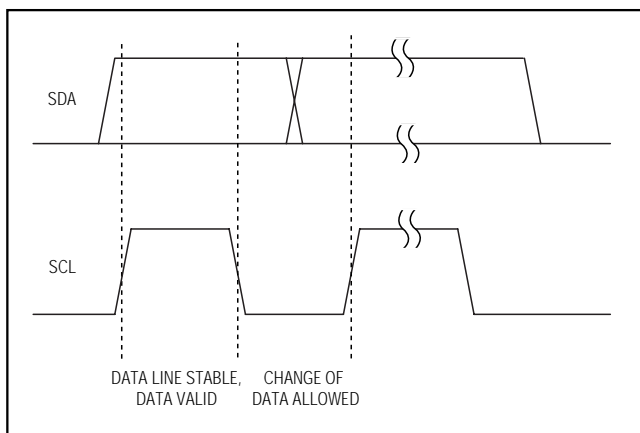
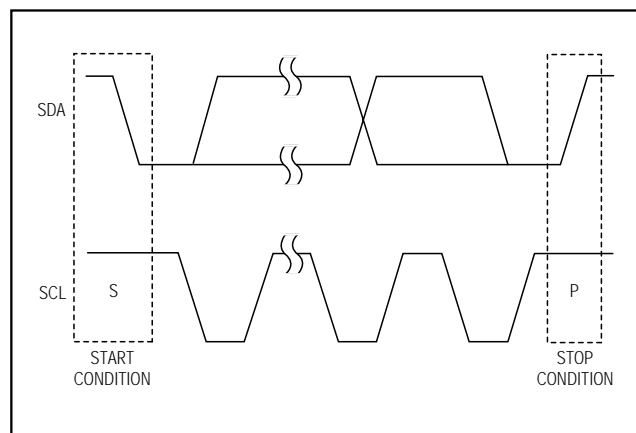

Figure 3. Bit Transfer
Figure 4. Start and Stop Conditions
Each clock pulse transfers one data bit. The data on SDA must remain stable while SCL is high (Figure 3), otherwise the MAX6872/MAX6873 register a START or STOP condition (Figure 4) from the master. SDA and SCL idle high when the bus is not busy.
Both SCL and SDA idle high when the bus is not busy. A master device signals the beginning of a transmission with a START (S) condition (Figure 4) by transitioning SDA from high to low while SCL is high. The master device issues a STOP (P) condition (Figure 4) by transitioning SDA from low to high while SCL is high. A STOP condition frees the bus for another transmission. The bus remains active if a REPEATED START condition is generated, such as in the block read protocol (see Figure 7).